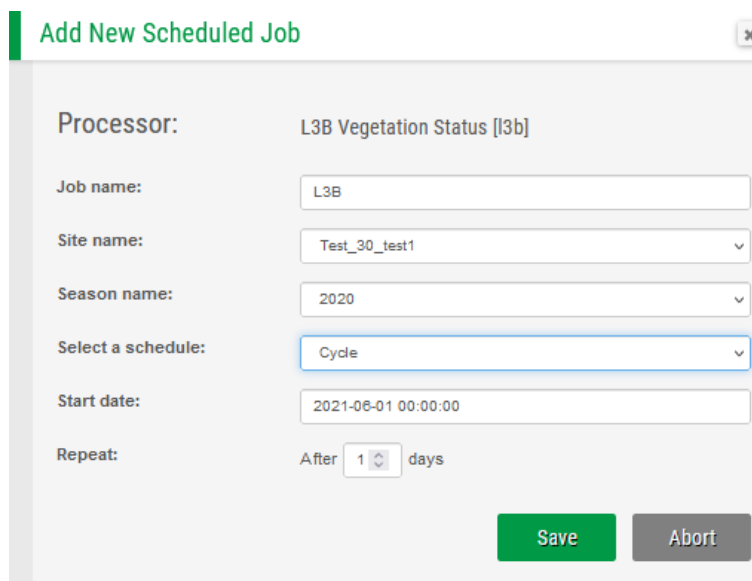

Figure 4-31. Adding “Cycle” scheduled type
- “Cycle” – this option allows to schedule a task at a certain date and then to reschedule the task after a number of specified days (Figure 4-31). For example, a configuration with the start date of 1st of March and “Repeat after” set to 4 days will execute the scheduler on 1st of March then on 5th of March, then on 10th of March and so on.